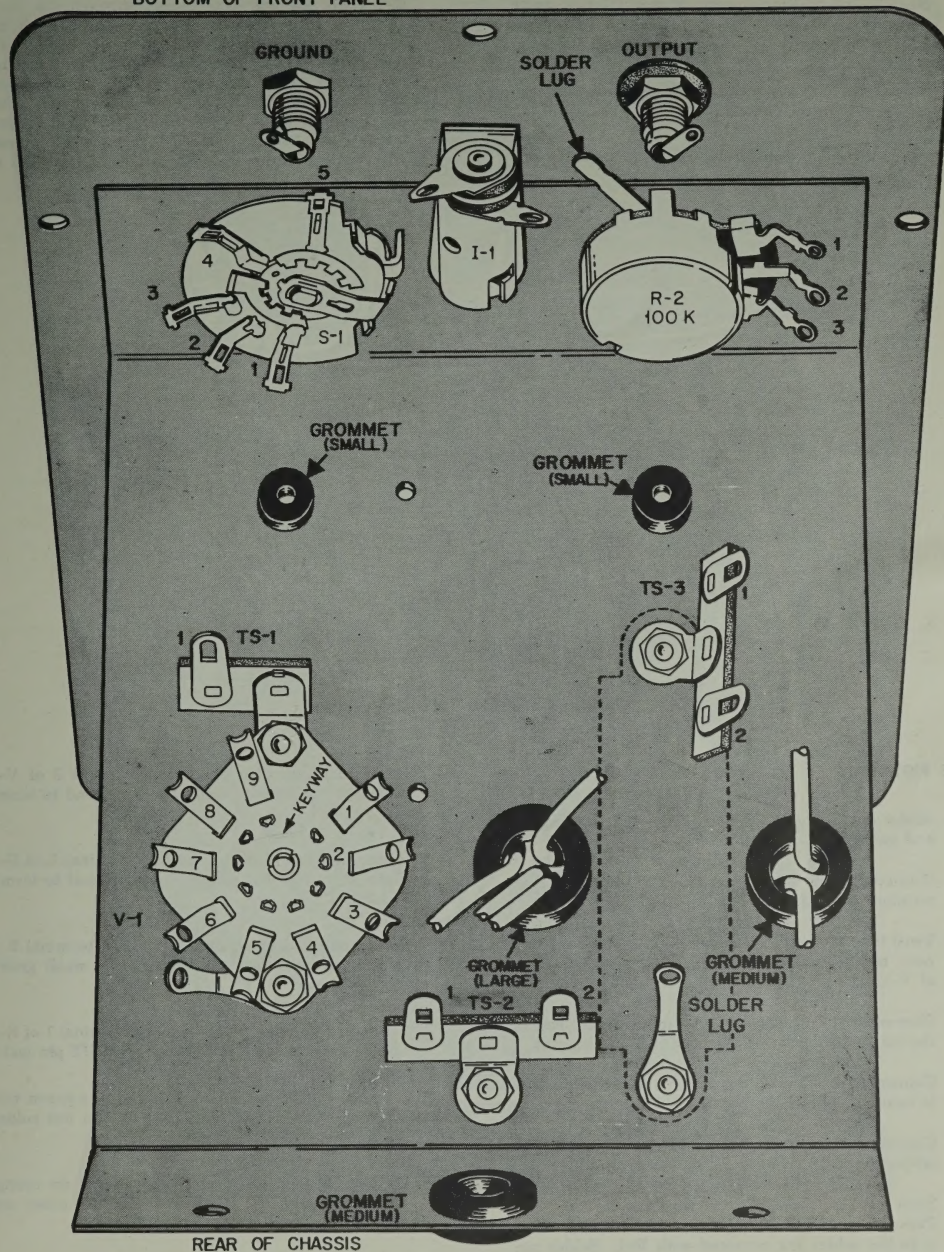

FIGURE 5. MOUNTING PARTS ON THE CHASSIS
- ☐ Push the five grommets, 1 large, 2 medium, and 2 small, into the holes as shown in Figure 5.